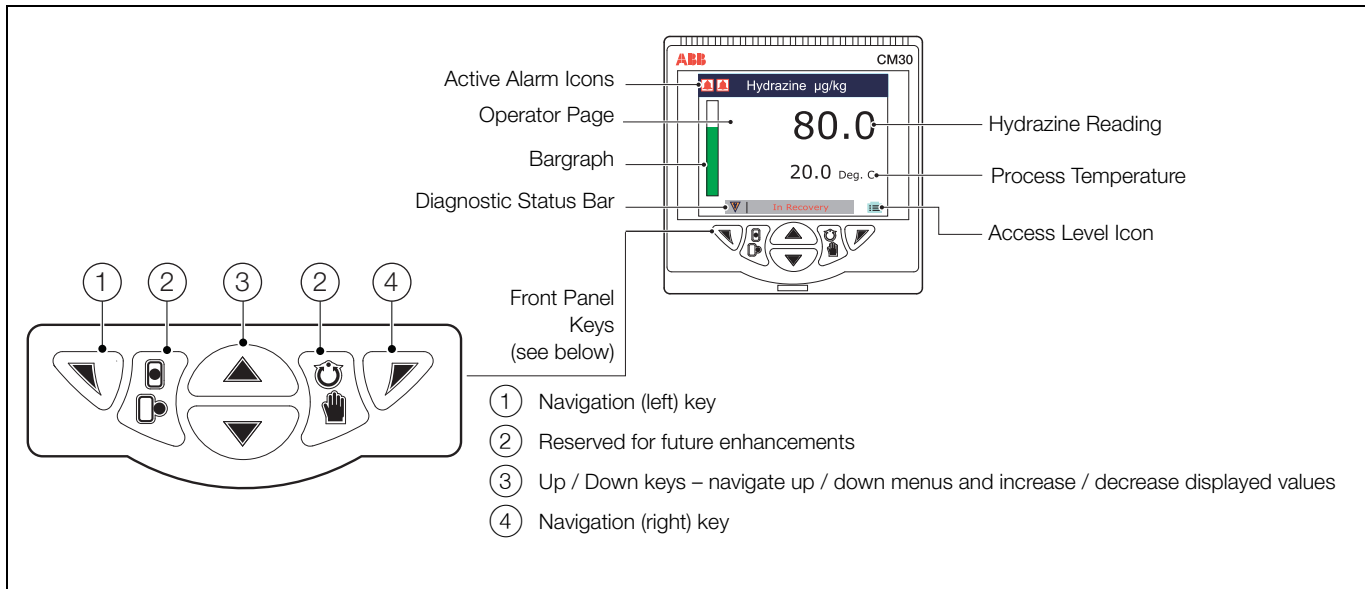

Fig. 6.1 Operator Page and Keys
The Operator page, icons and front panel keys are shown in Fig. 6.1:
1. From the *Operator page* (see Fig. 6.1), press .